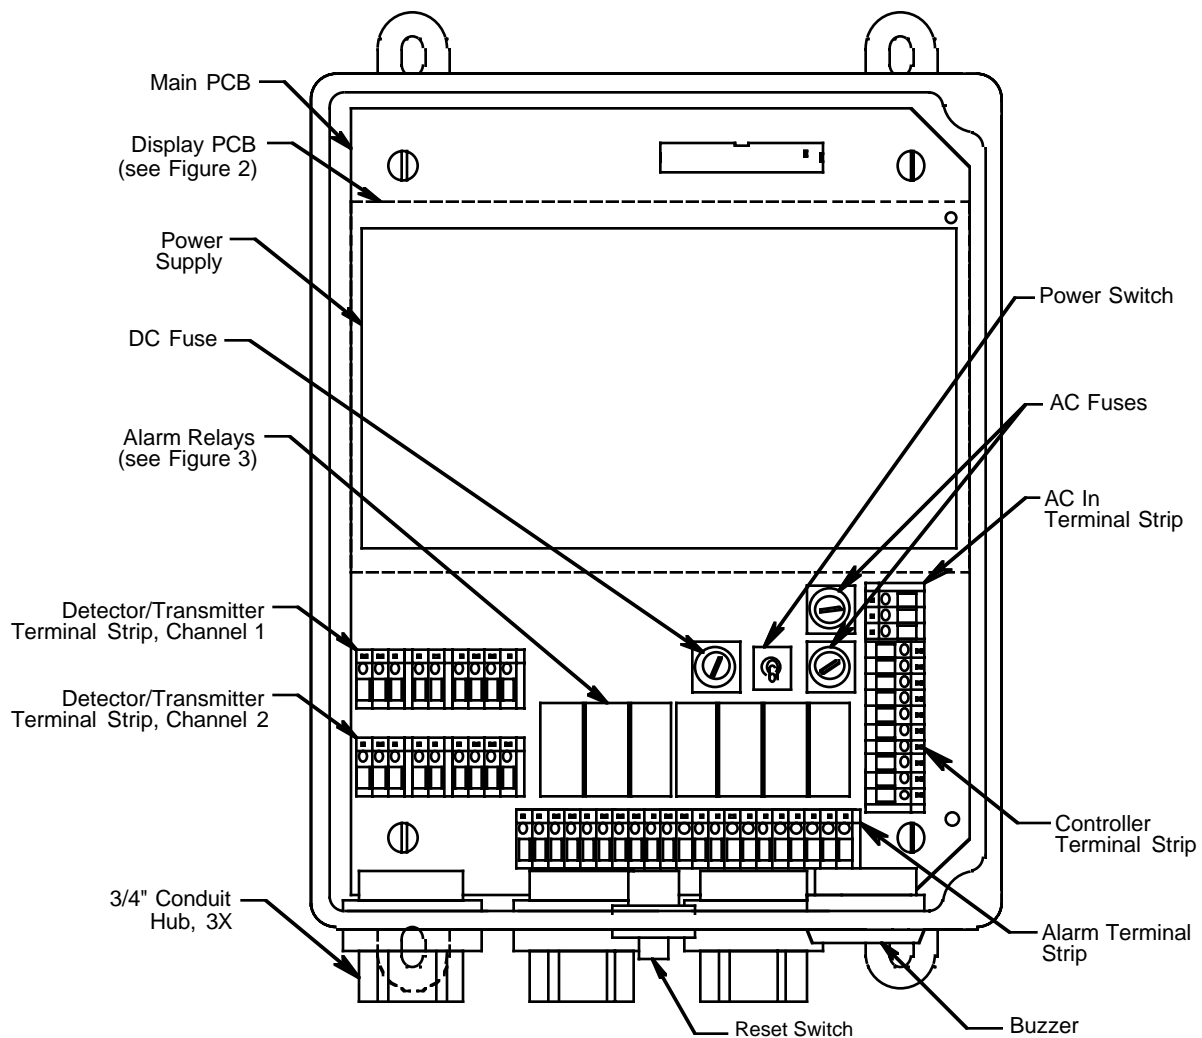

Figure 1. Beacon 200 Gas Monitor Component Location
- **Detector/Transmitter Terminal Strips.** Two detector/transmitter terminal strips are located near the bottom left corner of the main circuit board (see Figure 1). These two 9-point terminal strips facilitate wiring connections to the detectors or transmitters. Although each terminal strip can accommodate several different detector head models, only one detector head at a time may be wired per channel. The top terminal strip is for channel 1 and the bottom terminal strip is for channel 2.
- **Alarm Terminal Strip.** The alarm terminal strip is located along the bottom edge of the main circuit board (see Figure 1). This 21-point terminal strips facilitates wiring connections to external alarm devices (horn, strobe, etc.). Terminals are provided for individual channel as well as common alarm relay contacts.
- **Controller Terminal Strip.** The 10-point controller terminal strip is near the lower right edge of the main circuit board (see Figure 1). The controller terminal strip facilitates various internal and external wiring connections. Table 3 lists the function of each terminal.
- **AC In Terminal Strip.** The AC in terminal strip is a 3-point terminal strip located above the controller terminal strip (see Figure 1). It facilitates wiring from the AC power source. Table 4 lists the function of each terminal.
- **Channel relays.** The four channel relays are above the alarm terminal strip (see Figure 1). These relays are dedicated to specific channels and alarm levels.
- **Common relays.** The three common relays, alarm 1, alarm 2, and fail, are to the left of the controller terminal strip (see Figure 1). These relays are common for both channels.
The power switch is located above the relays and in between the AC and DC fuses (see Figure 1). The power switch turns the incoming AC power source on and off at the Beacon 200. When the switch is up, the power switch is on.
4. Locate the 3-point AC in terminal strip (see Figure 1). The terminals are labelled LINE, NEUT, and GND.